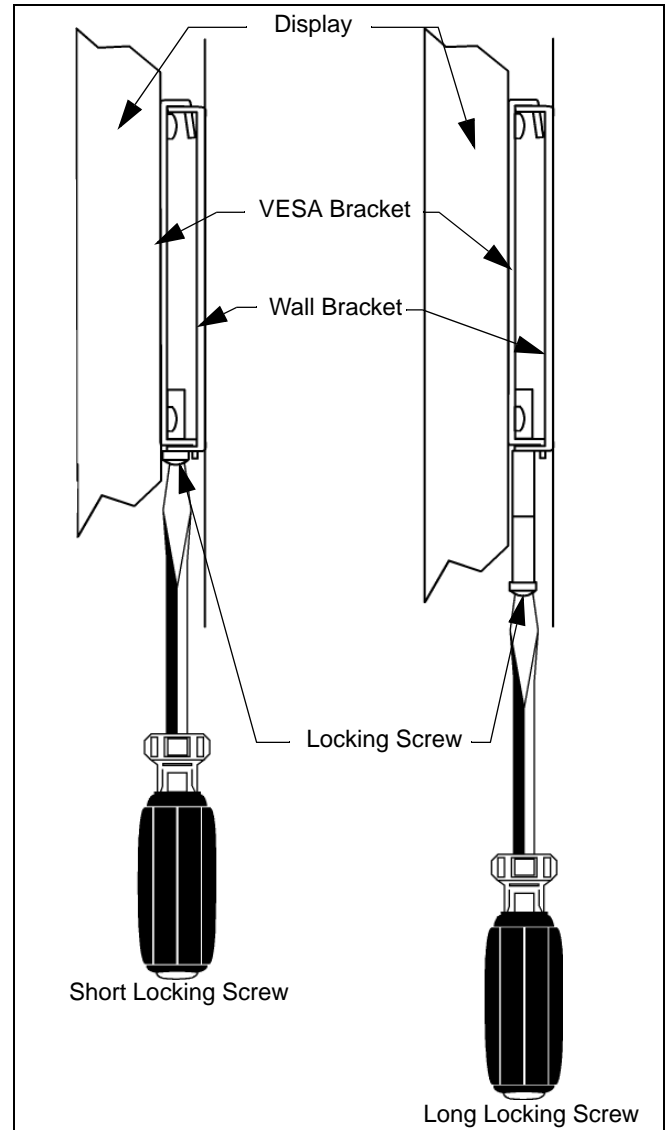

Figure 17: Lock Display
2. Tighten the two locking screws (50 or 60). (see figure 17)